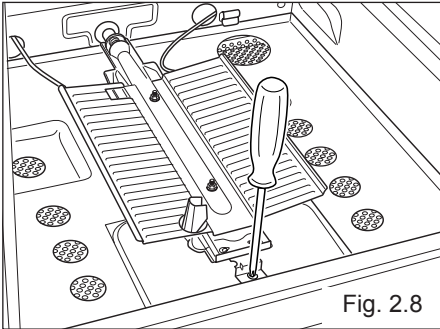

Fig. 2.8
- Remove the burner securing screw (fig. 2.8).